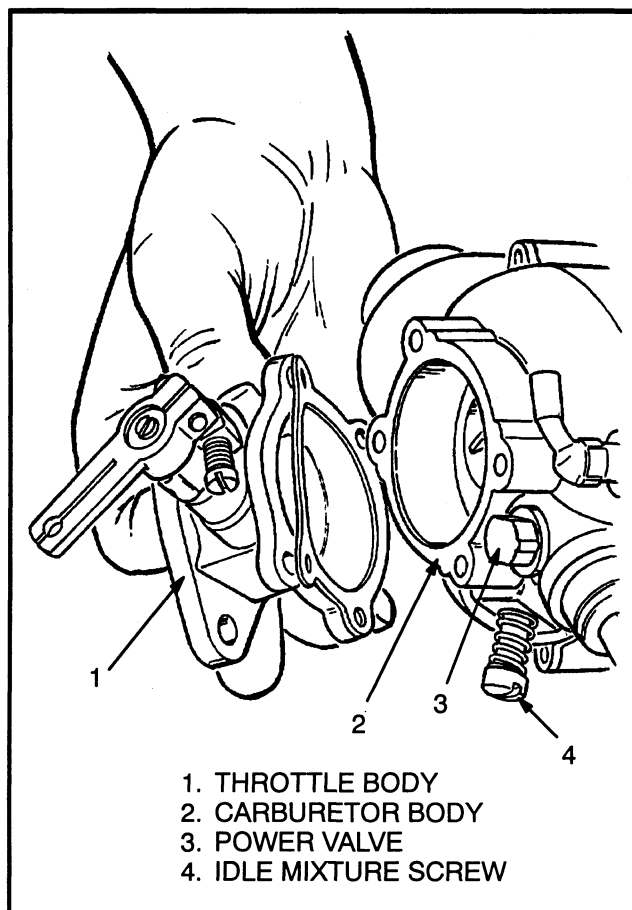
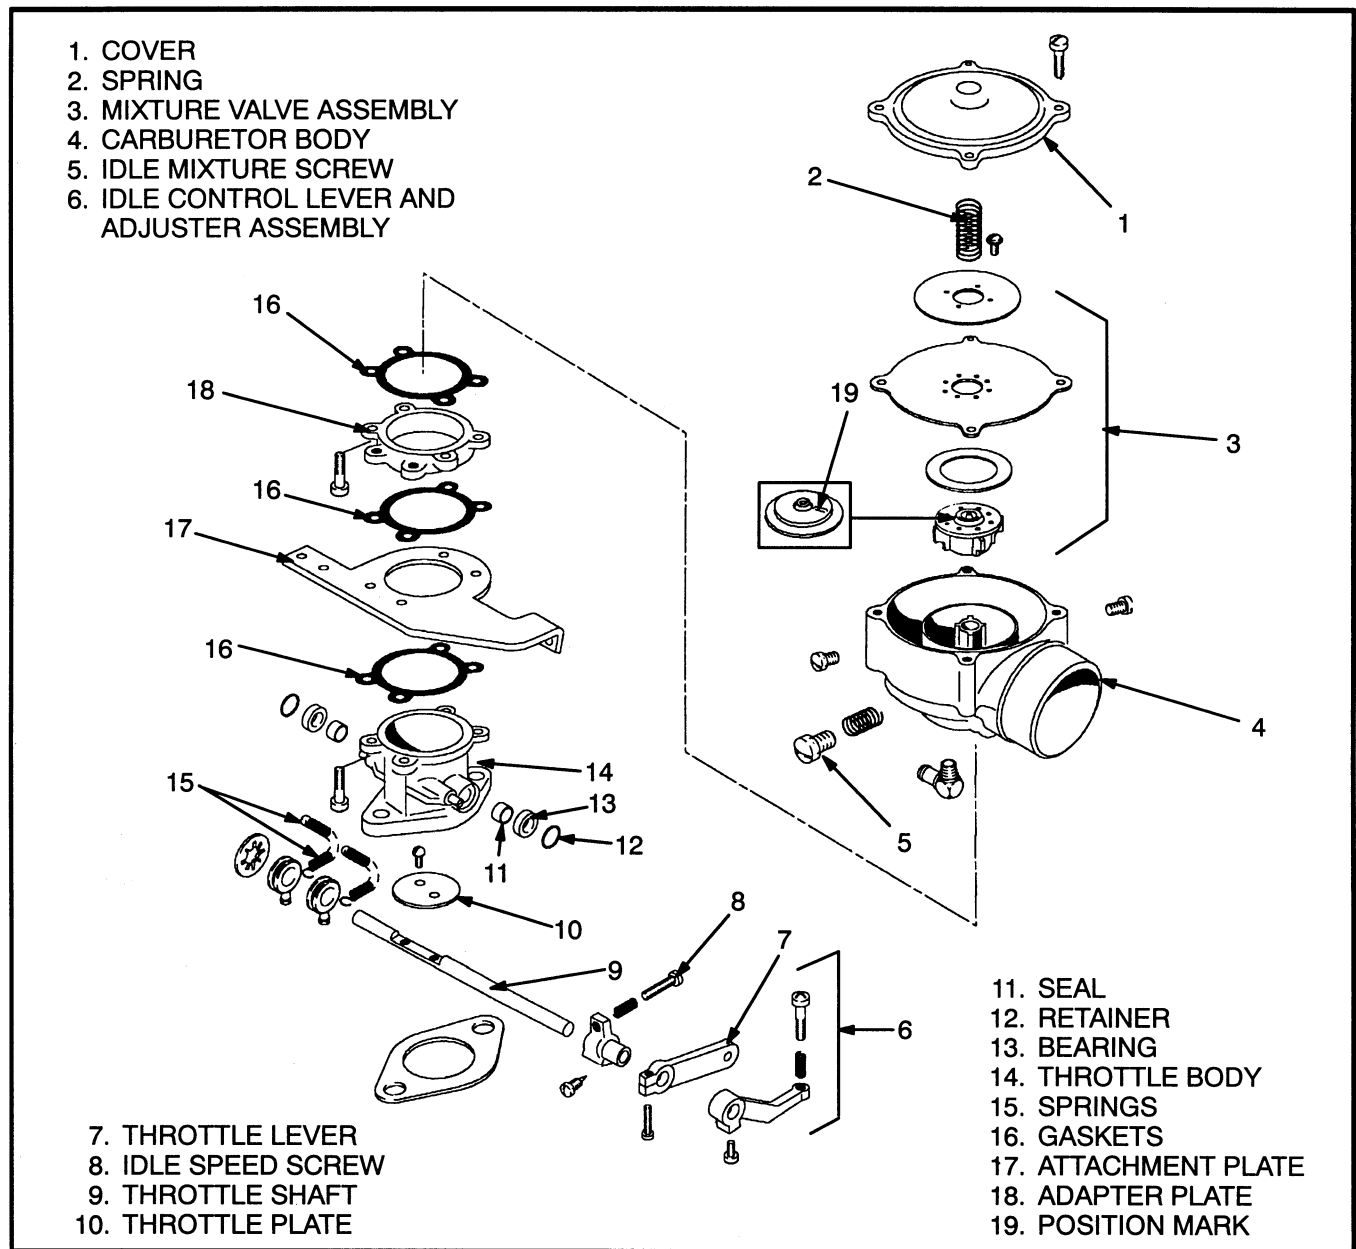

FIGURE 16. THROTTLE BODY REMOVAL
FIGURE 17. PARTS OF THE CARBURETOR, S/H2.00-3.20XM (S/H40-65XM)
(See FIGURE 16. and FIGURE 17.)
**Assembly (See FIGURE 16. and FIGURE 17.)**